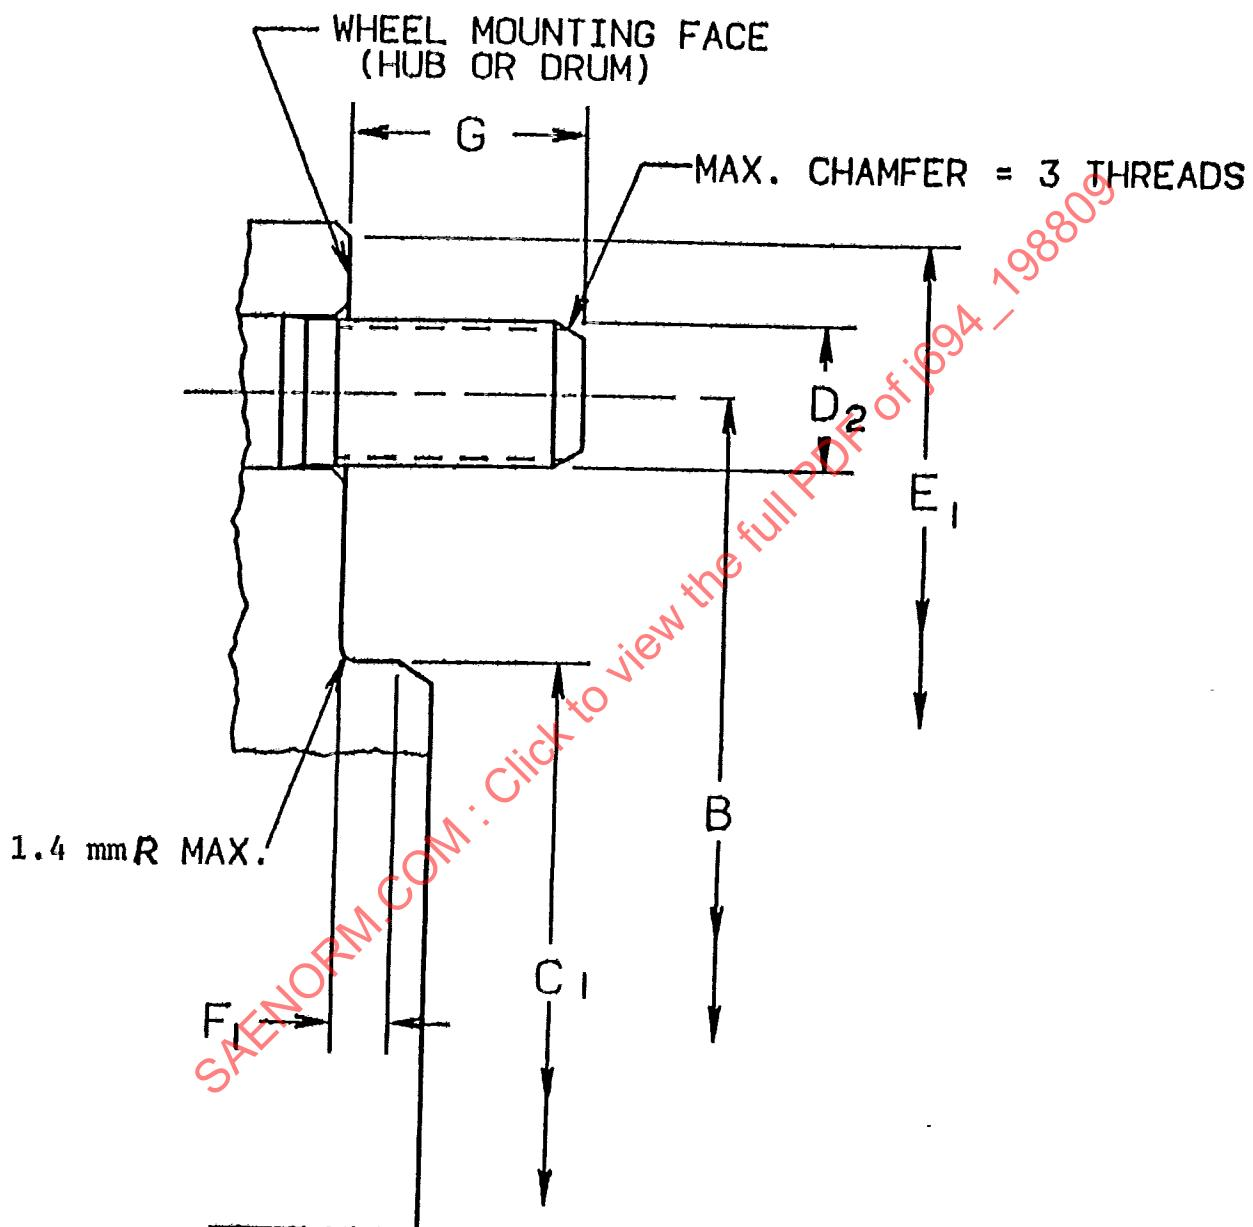

FIGURE 3 - Hub or Drum Interface Dimensions
**5.2.1 Definitions of Hub or Drum Interface Dimensions (Ref. Fig. 3):**